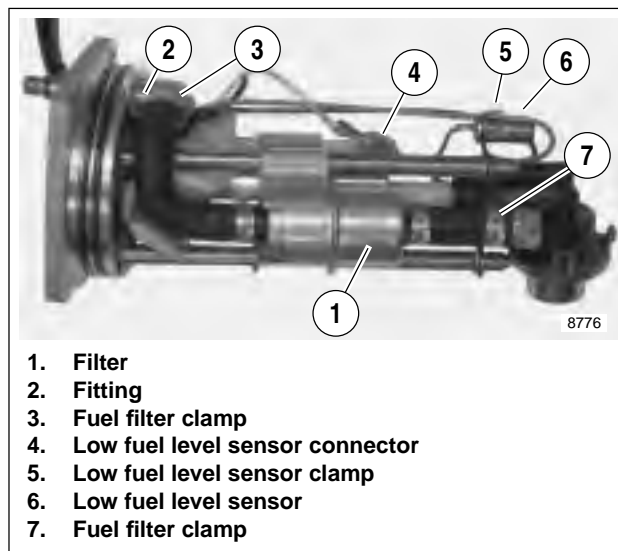
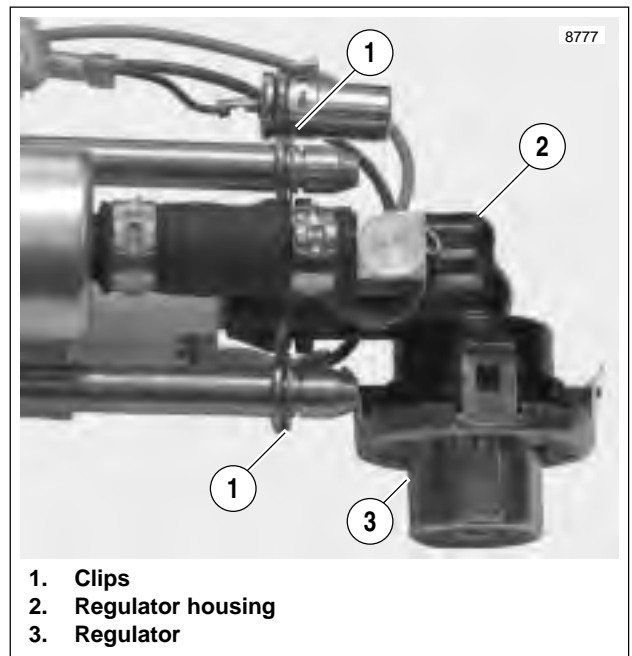
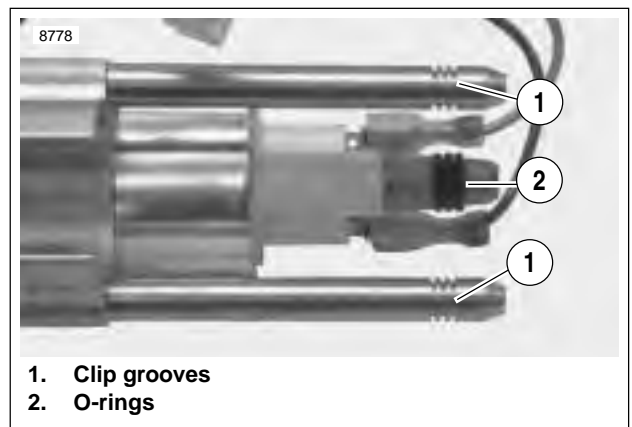

Figure 4-200. Fuel Pump Assembly (right side)
Figure 4-201. Fuel Pump Clips
Figure 4-202. Regulator Housing O-rings
2. See Figure 4-200. Disconnect low fuel level sensor connector (4).
3. Remove clamp (5) securing low fuel level sensor (6) in place.
2. See Figure 4-200. Remove fuel pump clamps (3, 7).
3. See Figure 4-201. Remove fuel pump clips (1).
4. Pull regulator housing (2) from fuel pump assembly.
5. See Figure 4-202. Discard regulator housing o-rings (2).
6. See Figure 4-200. Remove fuel filter hose from fitting (2) and remove fuel filter (1).
8. Install **new** fuel filter hose with 90° bend towards fitting (2).
9. See Figure 4-202. Install **new** regulator housing o-rings.
11. See Figure 4-200. Tighten fuel filter clamps (3, 7).
12. See Figure 4-201. Install clips (1) into center grooves.
2. See Figure 4-200. Remove fuel filter clamp (3). Disconnect hose from fitting (2).
3. See Figure 4-201. Remove clips (1).
9. See Figure 4-200. Attach fuel filter hose to fitting (2) with clamp (3).
10. See Figure 4-201. Install clips (1) into middle grooves.
14. See Figure 4-200. Attach fuel filter hose to fitting (2) with clamp (3).
15. See Figure 4-201. Install clips (1) into middle grooves.